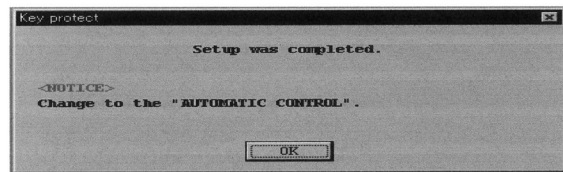

Fig.95
- ④ Click on "OK". A change in the setting now causes a message box as shown in Fig. 95 to appear. Click on "OK" button to complete the setup process.